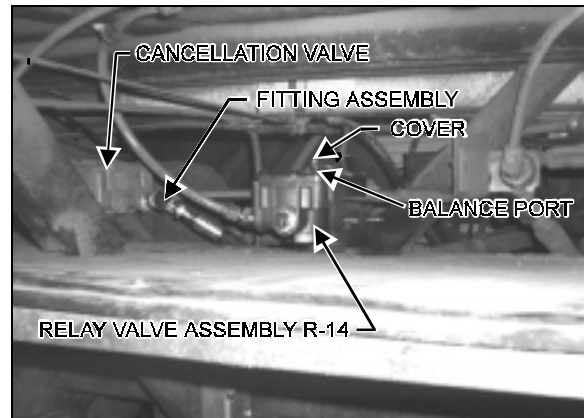
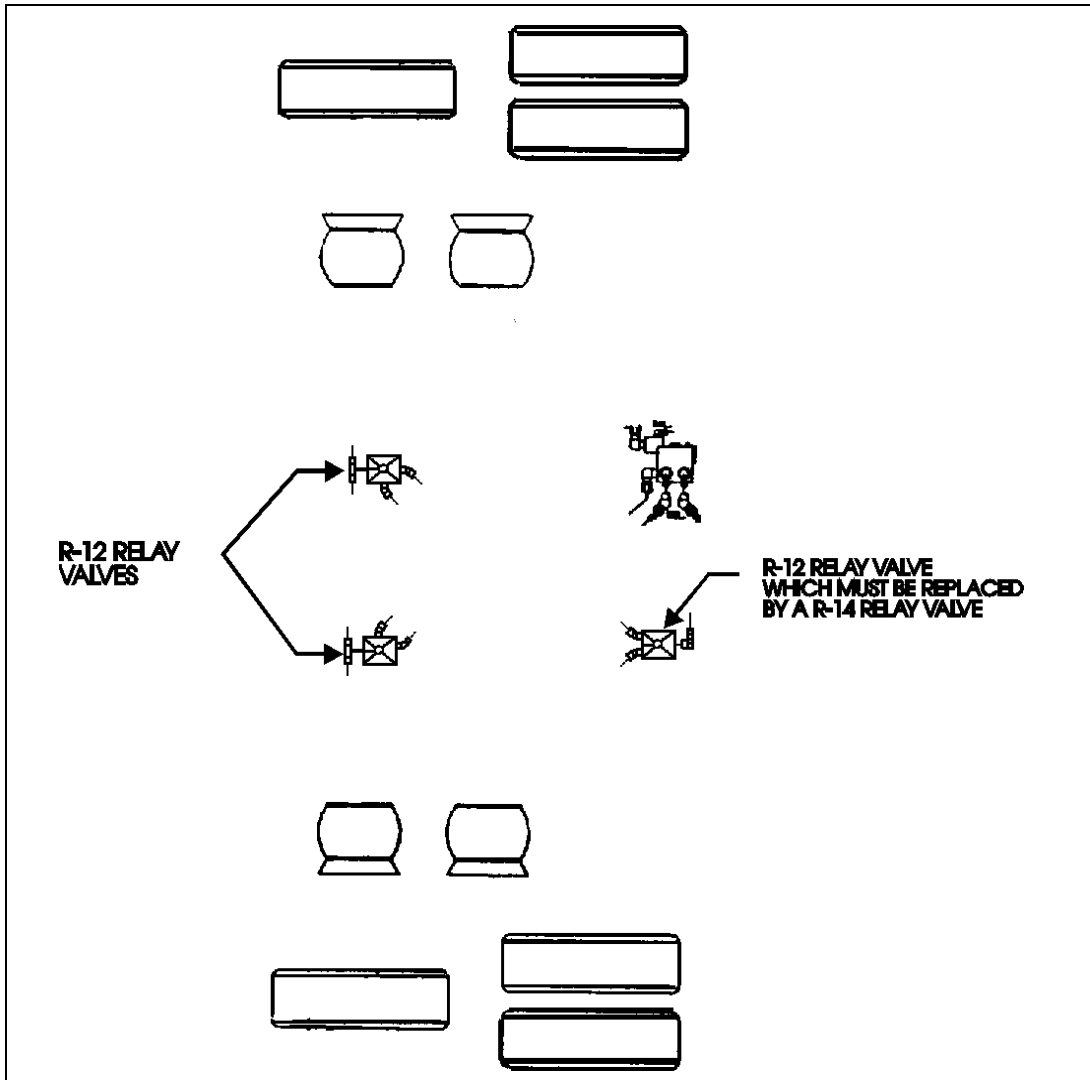

FIGURE 4: RELAY VALVE ASSEMBLY 12093
FIGURE 5: LOCATION OF THE RELAY VALVES
Addition of figure 5 to locate the R-12 relay valve mentioned in step 7.
7. Replace relay valve assembly R-12 (located forward and to the right of R-12 relay valves, Fig. 5) with new valve R-14 #641120 and reinstall hoses C/W fittings at same locations on R-14. Add cover #641391 with screw #641390 on balance port.(Fig. 4)